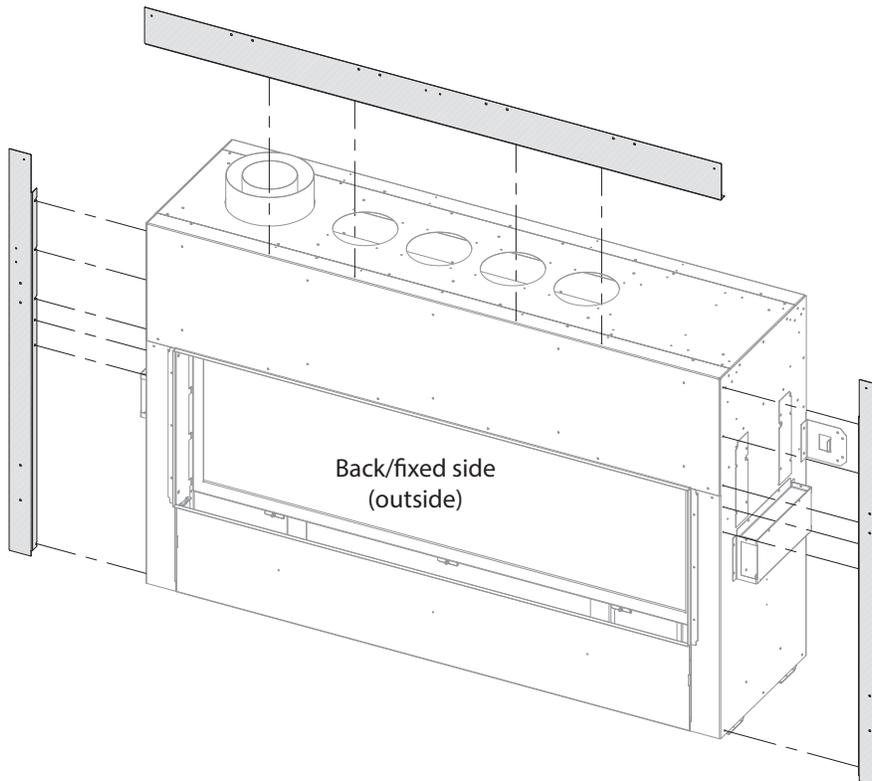

Figure 3.2, Exterior Stand-offs Installation
2. Attach the top, left, and right exterior stand-offs (A) as shown in Figure 3.2. Align the holes in the exterior stand-offs with the holes in the outer shell of the appliance. Secure with included (16) sheet metal screws.